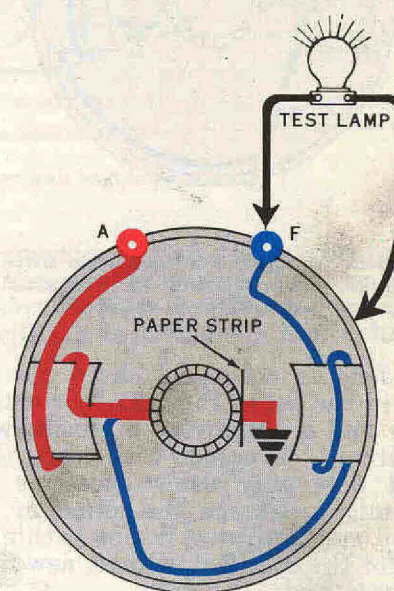

Figure 8—Check for grounded motor-generator.
1. Raise the grounded brush from the commutator and insulate with a piece of paper. Check for grounds with test prods from the generator "F" terminal to the generator frame. (Fig. 8) If the lamp lights, it indi-